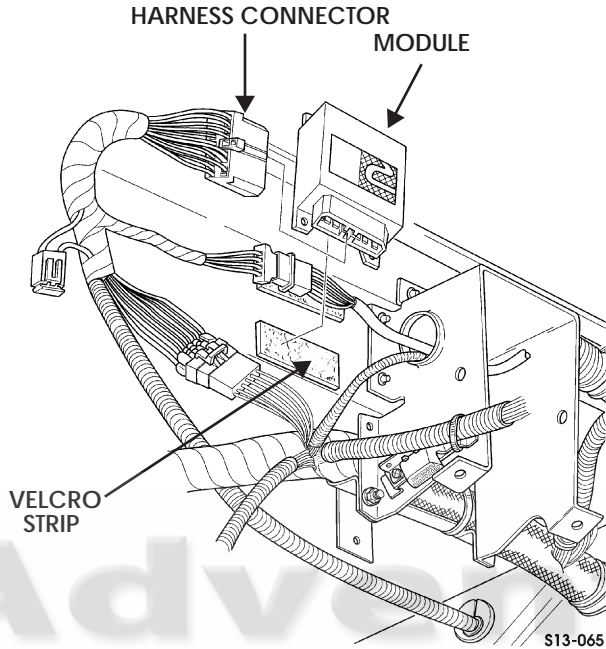

Figure 13-74: Cruise Control Module
1. Disconnect cruise control harness connector from module (Figure 13-74).
2. Connect cruise control harness connector to module (Figure 13-74).